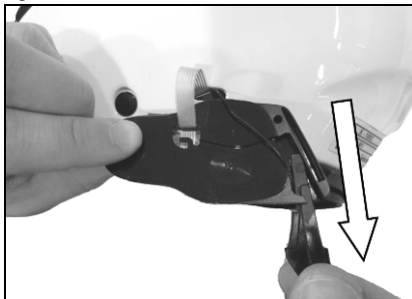

Fig. 37
- Take out the antenna from the plastic support of the keypad (Fig. 37);